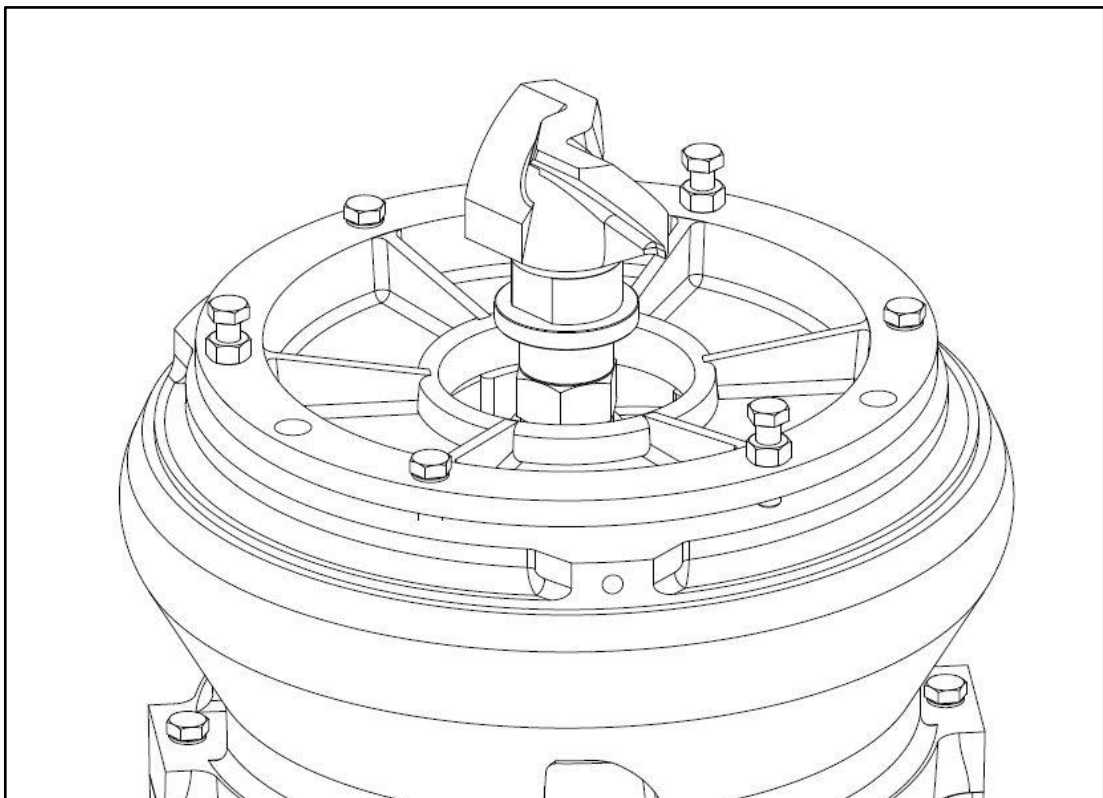

Fig. 22
- place the pump vertically and overturned in a stable and safe condition and remove the strainer (see **Strainer** section) (**Fig. 22**);